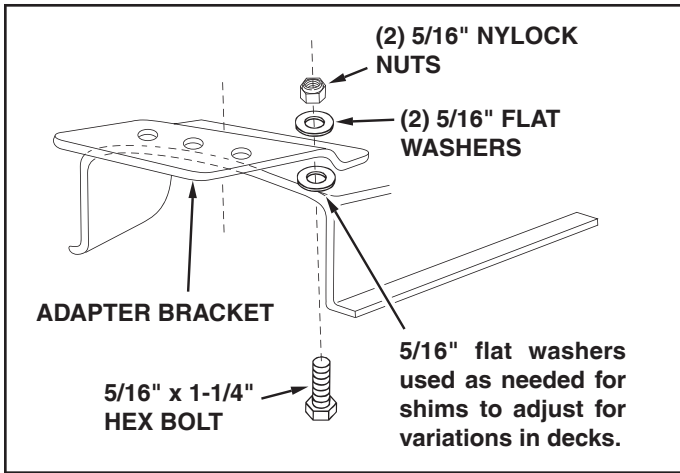

FIGURE 17
7. Assemble the adapter bracket to the deck using two 5/16" x 1-1/4" hex bolts, 5/16" flat washers and 5/16" nylock nuts. See figure 17.
NOTE: It may be necessary to use extra 5/16" flat washers to shim under the bracket next to the deck surface. Ten extra washers have been furnished as shims. See figure 17.